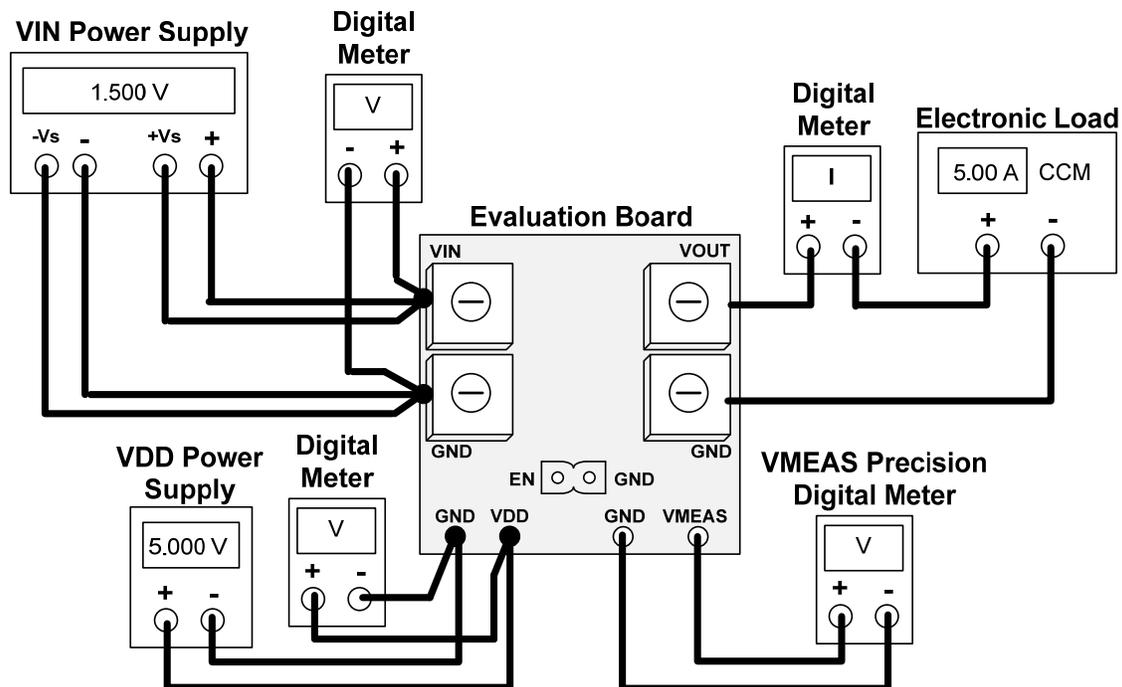

Figure 3. Evaluation Board Setup for 5 A Load Function Test
2. Connect the evaluation board as shown in Figure 3 below.